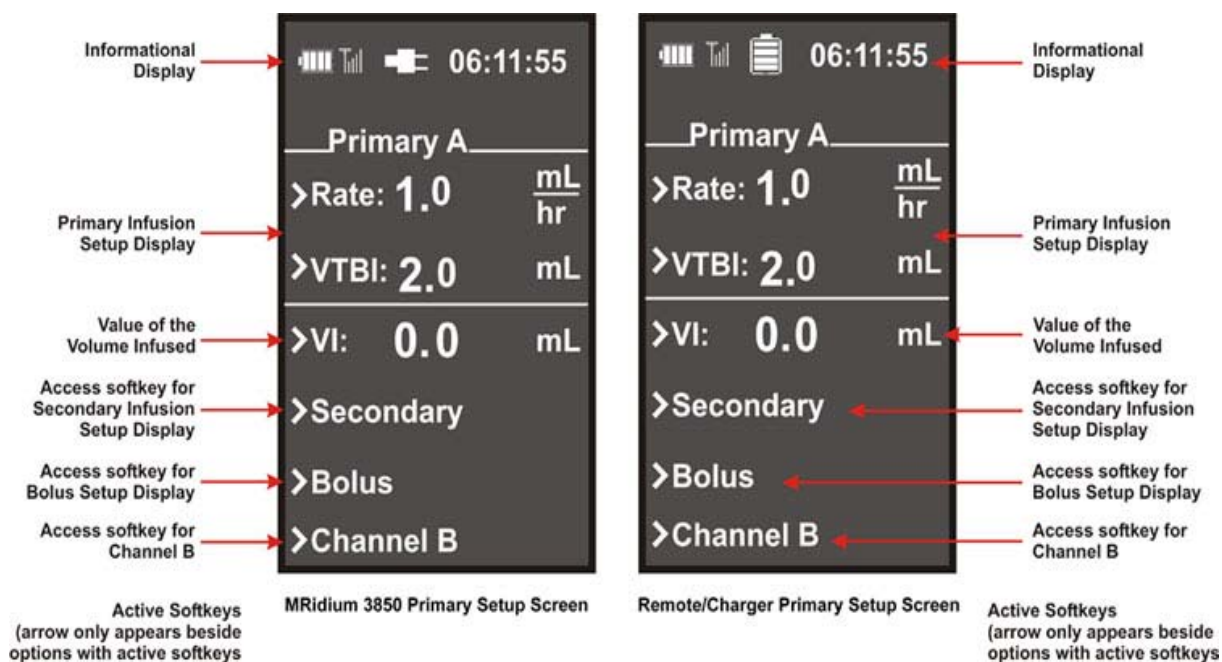

Figure 1-9. Setup Display Screens
1.3 Display. The display screen provides the operator with the information and prompts necessary to operate this pump. See Figure 1-9 for a description of the Primary display. In general, the display screen functions as follows: